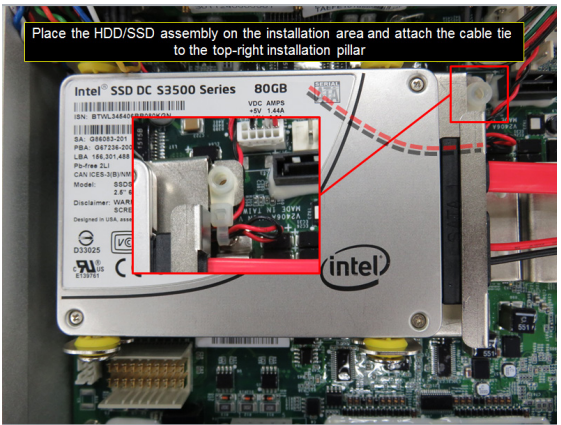

Figure 24
- 4.3.3 Place the HDD/SSD assembly on top of the four pillars in the installation area and put back the cable tie as shown in Figure 24.